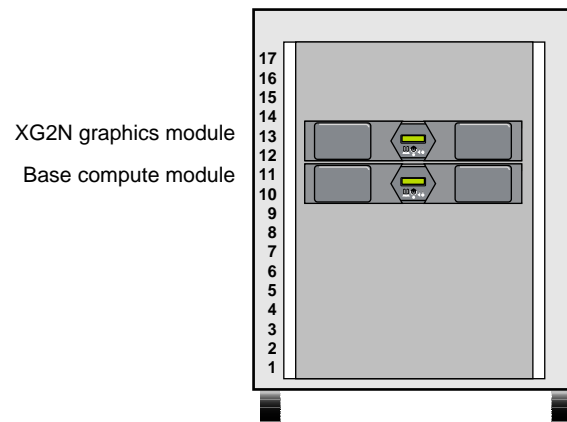
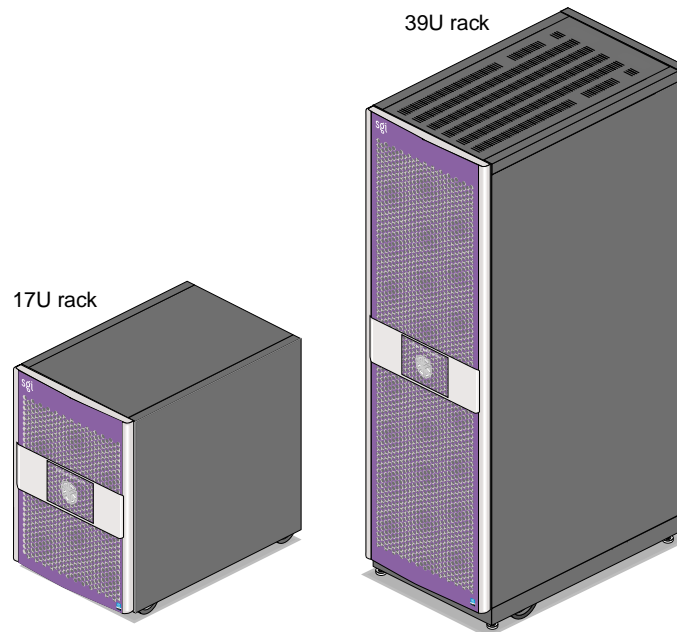

Figure 2-11 Unit Numbering Within Racks
Figure 2-14 Front Views of Short and Tall Racks
The system is offered in two rack types: a short rack and a tall rack. The racks are measured in standard rack units (U); one U is equal to 1.75 in. (4.45 cm). The short rack is a 17U rack (see Figure 2-11). The tall rack is a 39U rack (see Figure 2-14).
Each component within the rack is identified by the lowest U number that it occupies. For example, the top (XG2N) module shown in Figure 2-11 is described as being located in U12.
Both short and tall racks, as shown in Figure 2-14, have front and rear doors that have keylocks to prevent unauthorized access to the system. The racks also have cable entry/exit areas at the bottom of the racks. The 39U racks have cable management hardware in the rear.